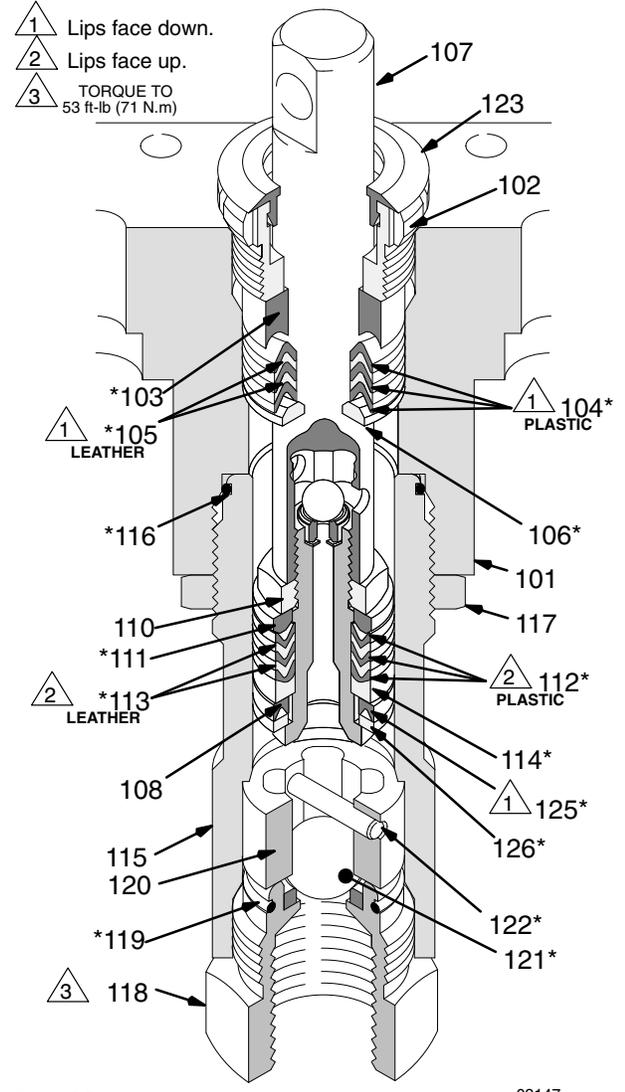

Fig. 23 03147
9. Stack these parts one at a time into the top of the manifold (101): the male gland (106*), alternately three plastic packings (104*) with two leather packings (105*), and then the female gland (103*). See Fig. 23.
10. Install the packing nut (102) and plug (124), but leave loose for now. See Fig. 23.